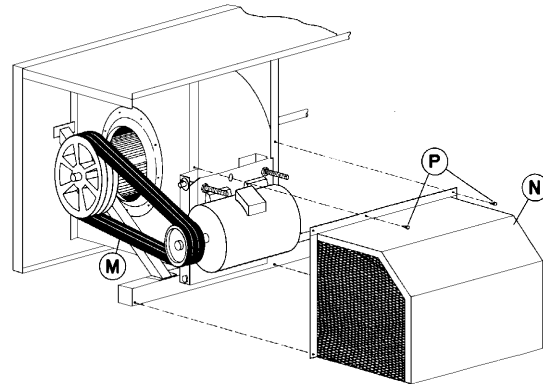

Figure 17 - Motor Guard and Powerband Belt Installation
6. Install the belts **M** around the fan sheave and motor sheave as Shown in Figure 17. Tighten belts by adjusting nuts on J-bolts. Do not over tighten the belts. When the belts are properly adjusted, the deflection at the center of the belt should be approximately 13 mm with moderate hand pressure.
9. To install the motor guard **N**, line up the holes and fasten with self-tapping screws or stainless steel nuts, bolts and washers (for stainless steel units) **P**. Check to ensure that the motor guard does not make contact with the drive sheave or belts (see Figure 17).